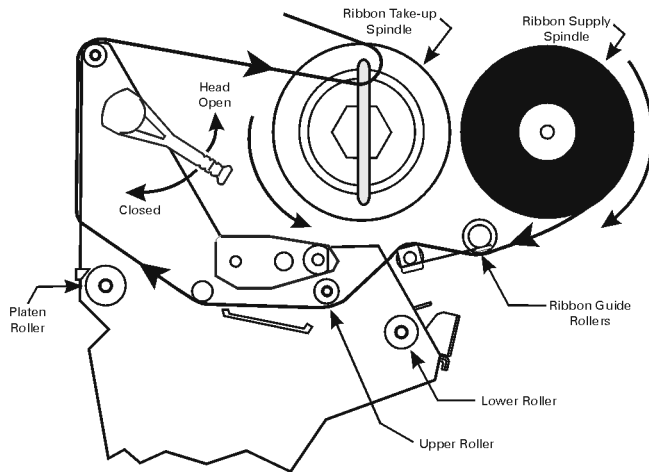

**Figure 3**
4. **Important...** To make ribbon loading and unloading easier, make a leader for your ribbon roll if it doesn't already have one (refer to Figure 3). Tear off a strip of media (labels and backing) about 6" - 12" long from the roll. Peel off a label from this strip and remove the remaining labels. Apply half of this label to the end of the strip and the other half to the end of the ribbon. This acts as a ribbon leader.
4. **Important...**To make ribbon loading and unloading easier, make a leader for your ribbon roll if it doesn't already have one (refer to Figure 3). Tear off a strip of media (labels and backing) about 6" - 12" long from the roll. Peel off a label from this strip and remove the remaining labels. Apply half of this label to the end of the strip and the other half to the end of the ribbon. This acts as a ribbon leader.